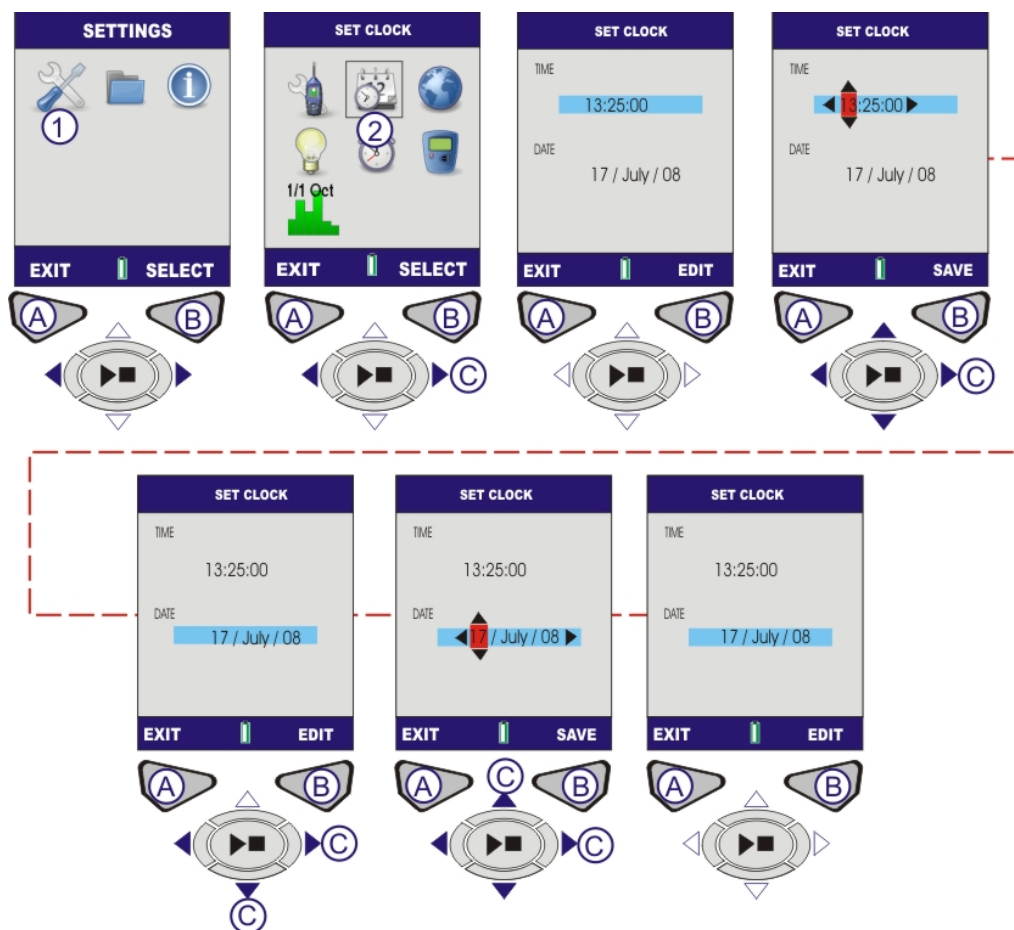

Figure 5 Set Date and Time
**C. DATE AND TIME SCREENS (Refer to Figure 5)**